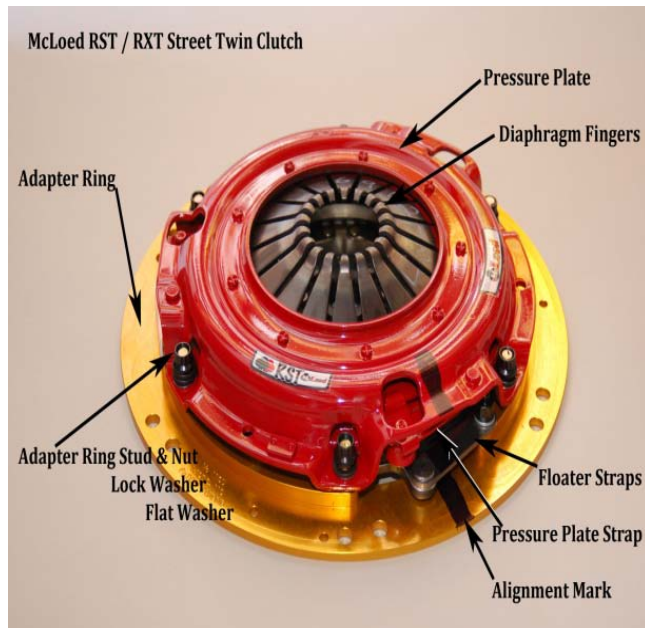

Figure 1
- 1) See Figure 1 for component parts identification and **alignment mark**!